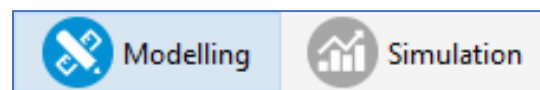

Figure 1-22 – Modelling/Simulation Mode Buttons
23. Switch from **Modelling Mode** into **Simulation Mode** by pressing the **Simulation** button (**Figure 1-22**) in the upper-right corner of the main window.